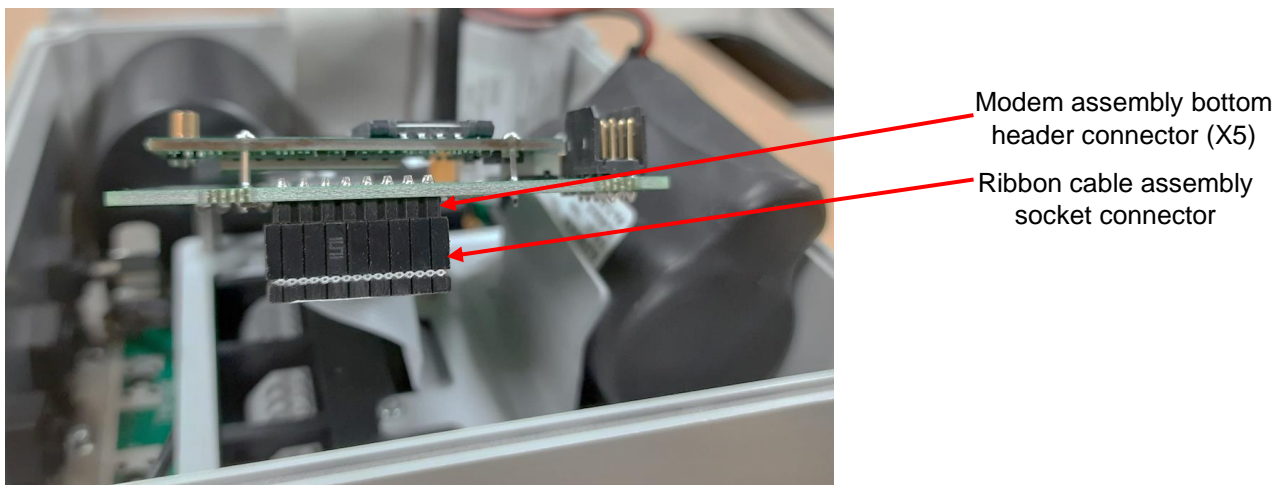

Fig. 29: Ribbon cable assembly socket connection with modem assembly X5 header connector
- Disconnect the ribbon cable assembly socket connector from the bottom X5 header connector of the modem assembly. (see Fig. 29)